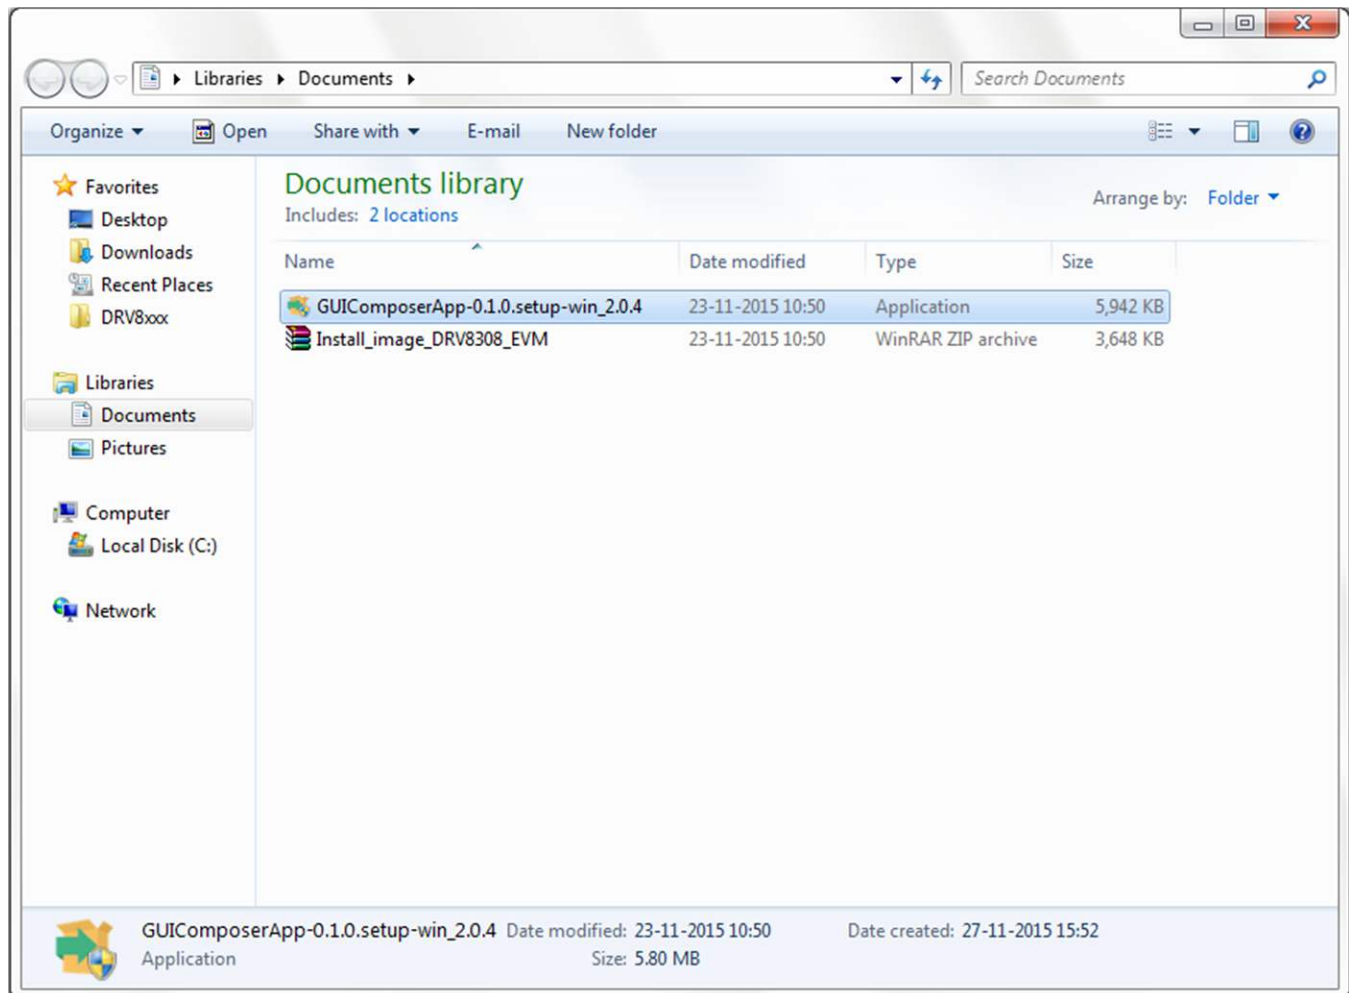

Figure 7. GUIComposerApp-0.1.0.setup-win_2.0.4
- Step 1. Double click the *GUIComposerApp-0.1.0.setup-win_2.0.4* application file shown in Figure 7 to launch the installation file.